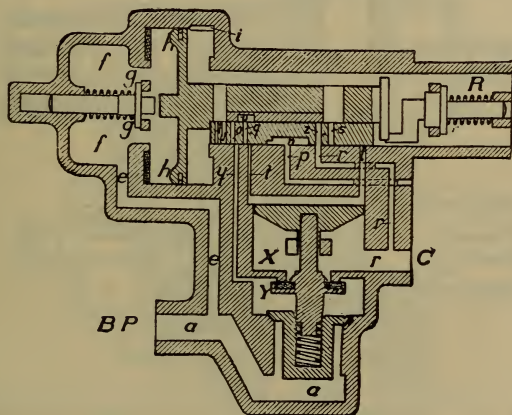

Fig. 317. K Triple Valve, Service Lap Position.
A. Referring to Fig. 317: The triple piston has moved the graduating valve so that it closes the ports *o*, *q*, and *z*, and cuts off passage of air from both the auxiliary and the brake pipe to the brake cylinder.
A. The port *o* would stay in register with *y*, as in Fig. 316, but the graduating valve would have closed the ports *o* and *z*, just as in Fig. 317.